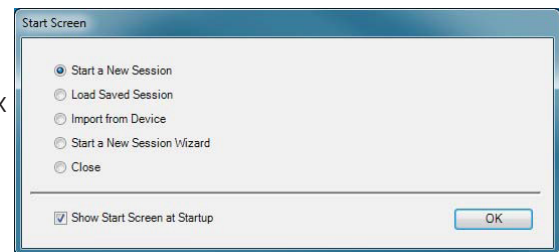

Figure 45: Start Screen Options
2. Uncheck **Show start screen at startup** check box on the start screen (Figure 45) or...